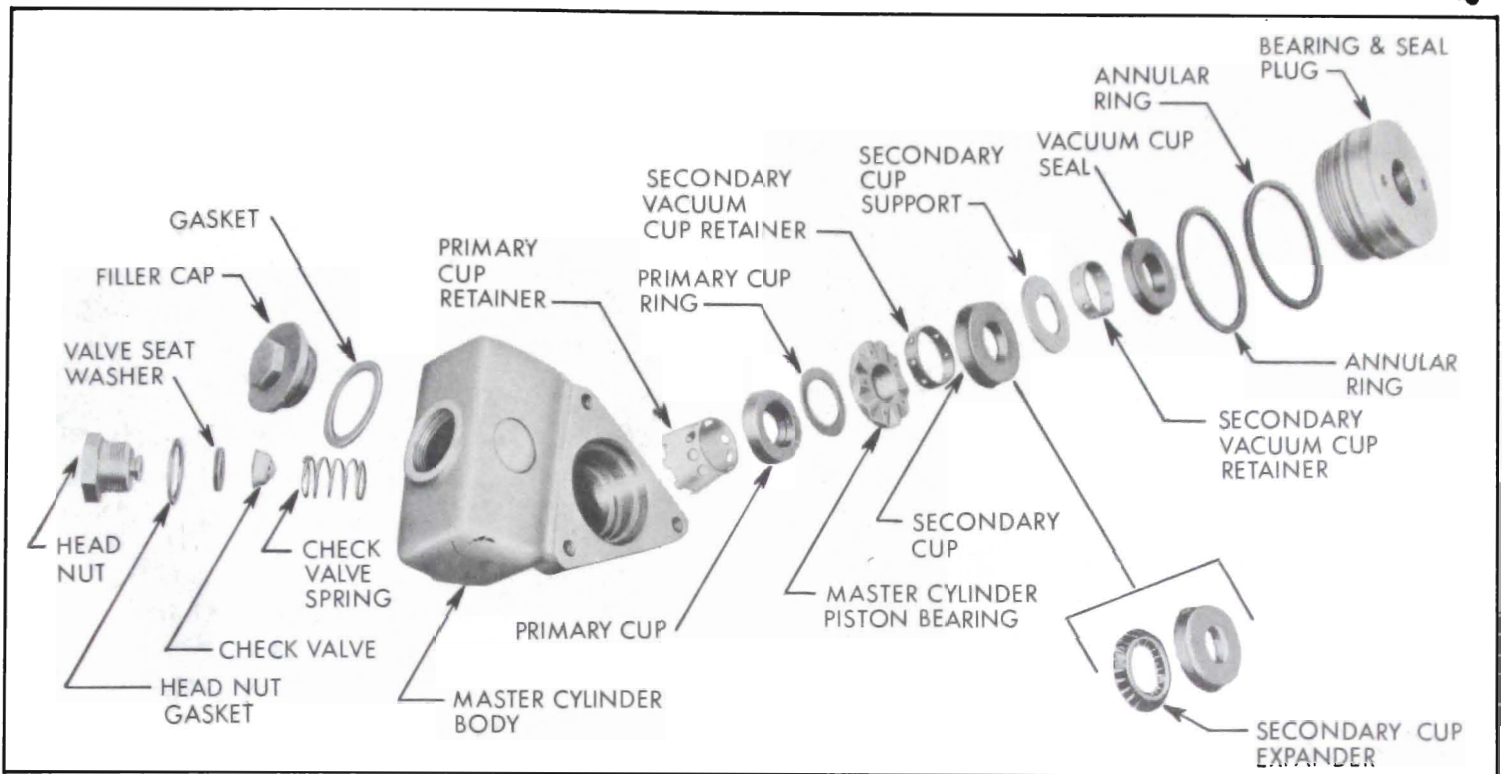

Figure 9-21—Hydraulic Cylinder Assembly—Exploded
19. From bore of master cylinder body, pull out cup retainer, piston bearing, flat primary cup ring, primary cup and conical cup retainer. See figure 9-21.